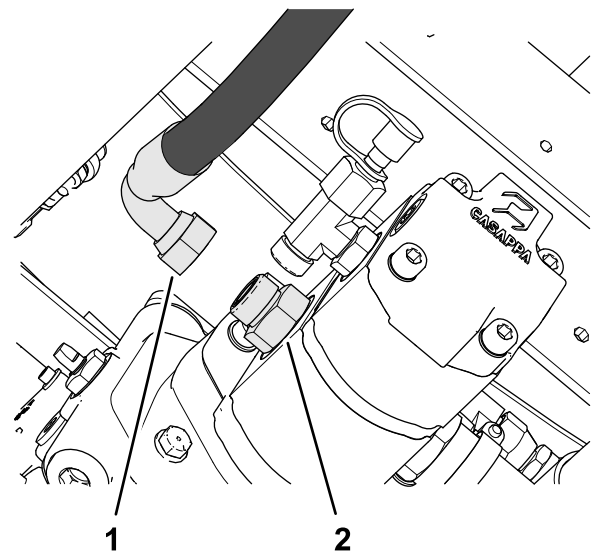

Figure 62
1. Disconnect the forward pressure hose for the boom-lift manifold from the straight fitting at the left side of the hydraulic pump (Figure 62).